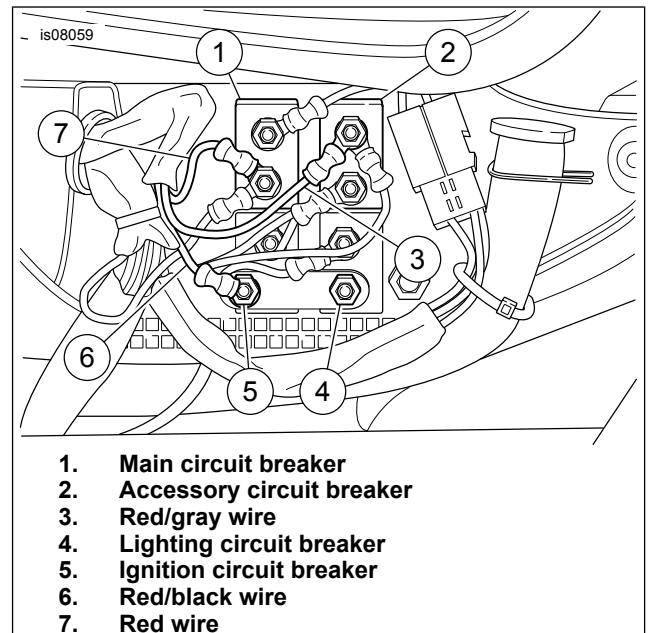

Figure 1. Circuit Breakers and Connections - 1994 FXR/FXLR
4. See Figure 1. Install new switch red wire on silver post of main circuit breaker.